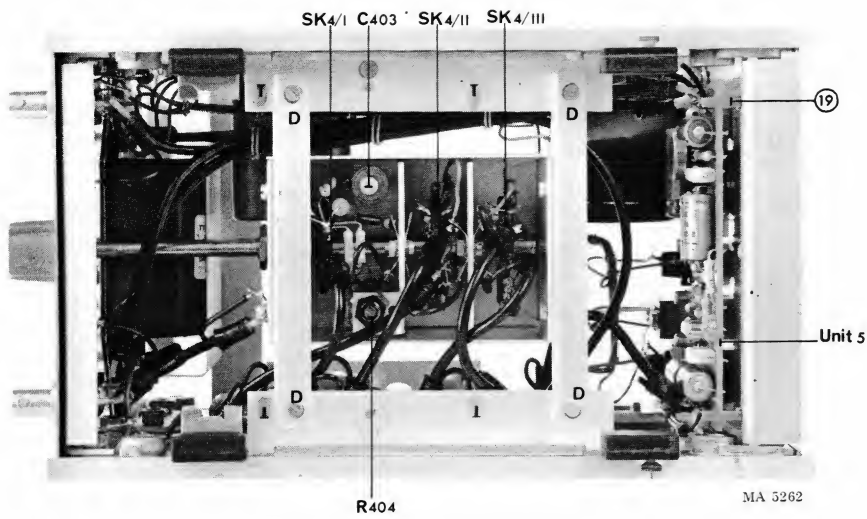

Fig. 14 Bottom view
- Adjust the pointer deflection to exactly 30 or 100 scale divisions by means of potentiometer R404. For adjusting R404 the bottom panel should be removed (Fig. 14).
- Trimmer C403 is located at the bottom of the instrument and is accessible after removal of the bottom panel (Fig. 14)